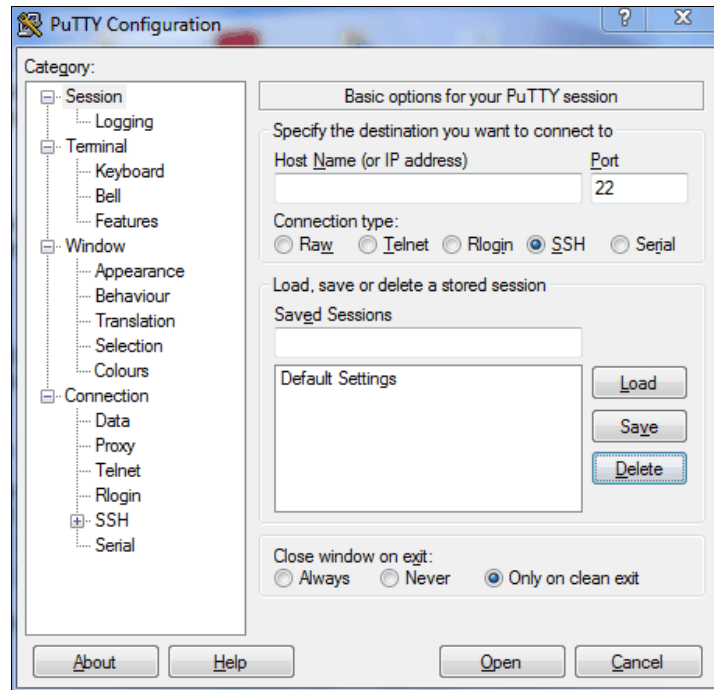

Figure A-10 PuTTY
1. Start PuTTY, as shown in Figure A-10.
- From the Category pane on the left side of the PuTTY Configuration window, click **Session** to return to the Session view (see Figure A-10 on page 490).